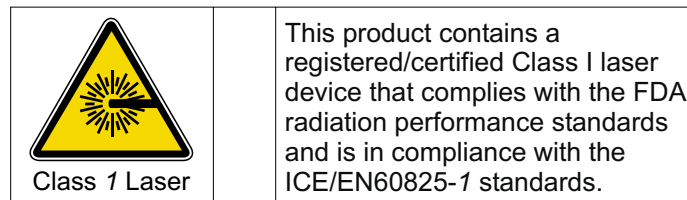

Figure 5. Class 1 laser label
- Class 1 laser label. See Figure 5.